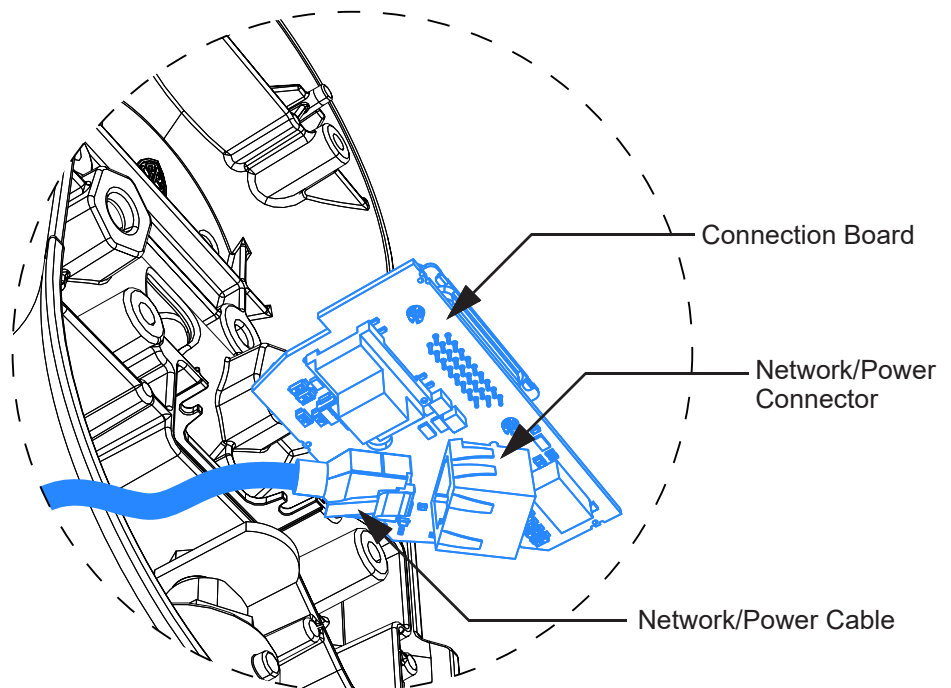

Figure 3-47 Cable Connection
Step 1 Plug in the cables to the connection board, see **Figure 3-47**.